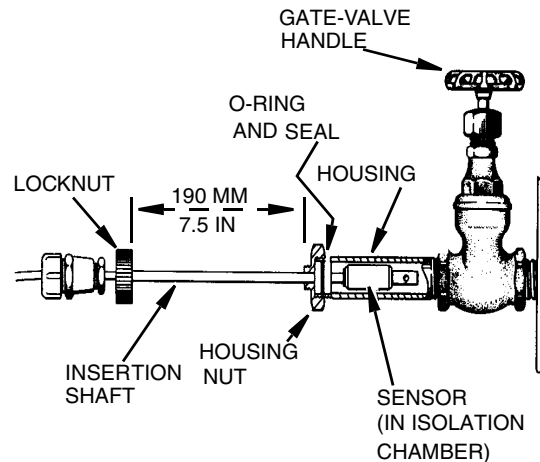

Figure 11. Removal of Gate-Valve Insertion Sensor
Do not loosen the housing nut (Figure 11) when the gate-valve unit is in the open position and the process line or tank is filled and pressurized.
2. Allow the sensor to enter into the gate-valve housing isolation chamber (see Figure 11). Expose the insertion shaft 190 mm (7.5 in) minimum.